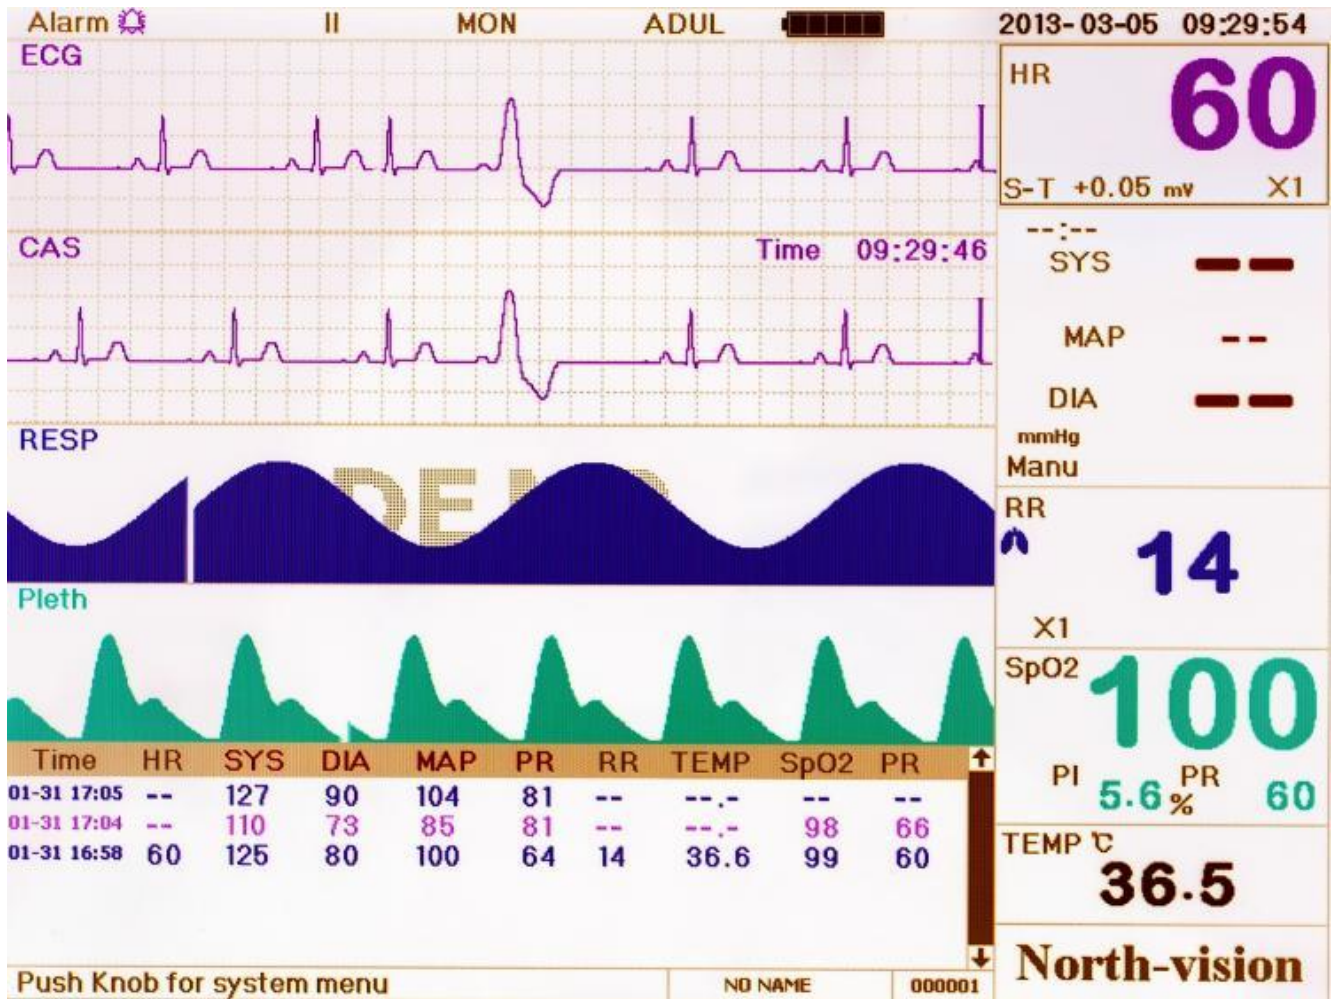
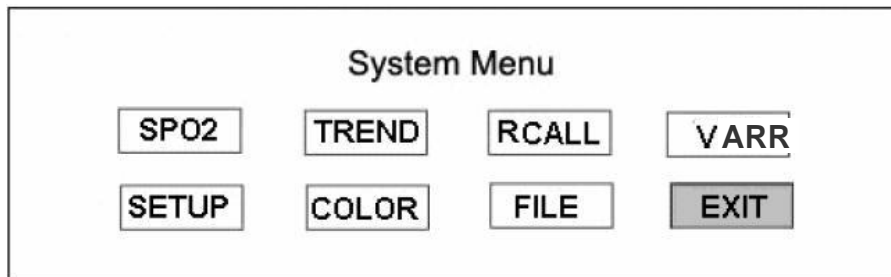

Figure 4.2 Main Screen
Figure 4.12 Trend Menu Screen
Step 5: If you have finished adjusting the date and time, press the knob and rotate the knob to move the cursor to "Save", press it to save the settings. Then move the cursor to "Exit", press it to exit the date and time setting screen, meanwhile enter into the main screen shown in Figure 4.2.
The system is initialized and enters into Main Screen where monitoring and system operation are performed. (shown in Figure 4.2)
Press the Navigation Knob in the main screen as shown in Figure 4.2, the operating area shows the mode selection screen, as shown in Figure 4.12.